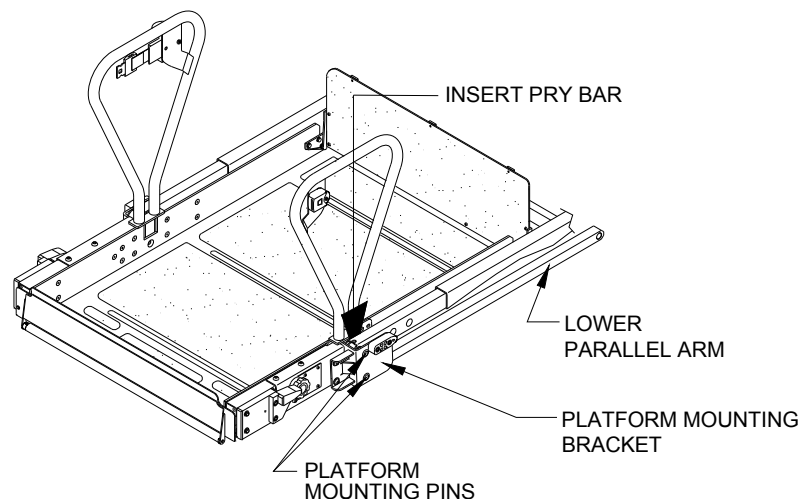

FIGURE 4-33: PLATFORM SEPARATION FROM LIFTING FRAME
- k. Refer to **Figure 4-33**. Remove bottom platform mounting pins from platform mounting brackets, and drop lower parallel arms (lower arms can be tied to upper arms for convenience).